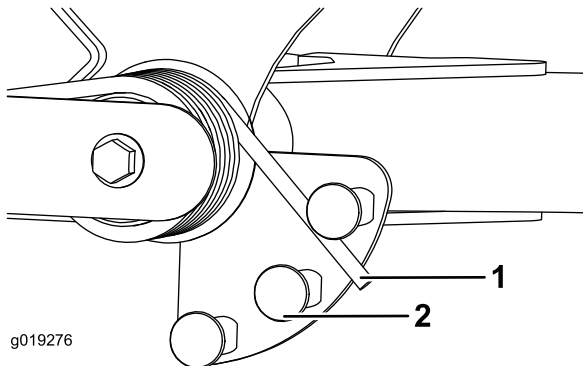

Figure 64
2. Insert a tube or similar object onto the long spring end and pivot it around the spring actuator to the desired position (Figure 64).